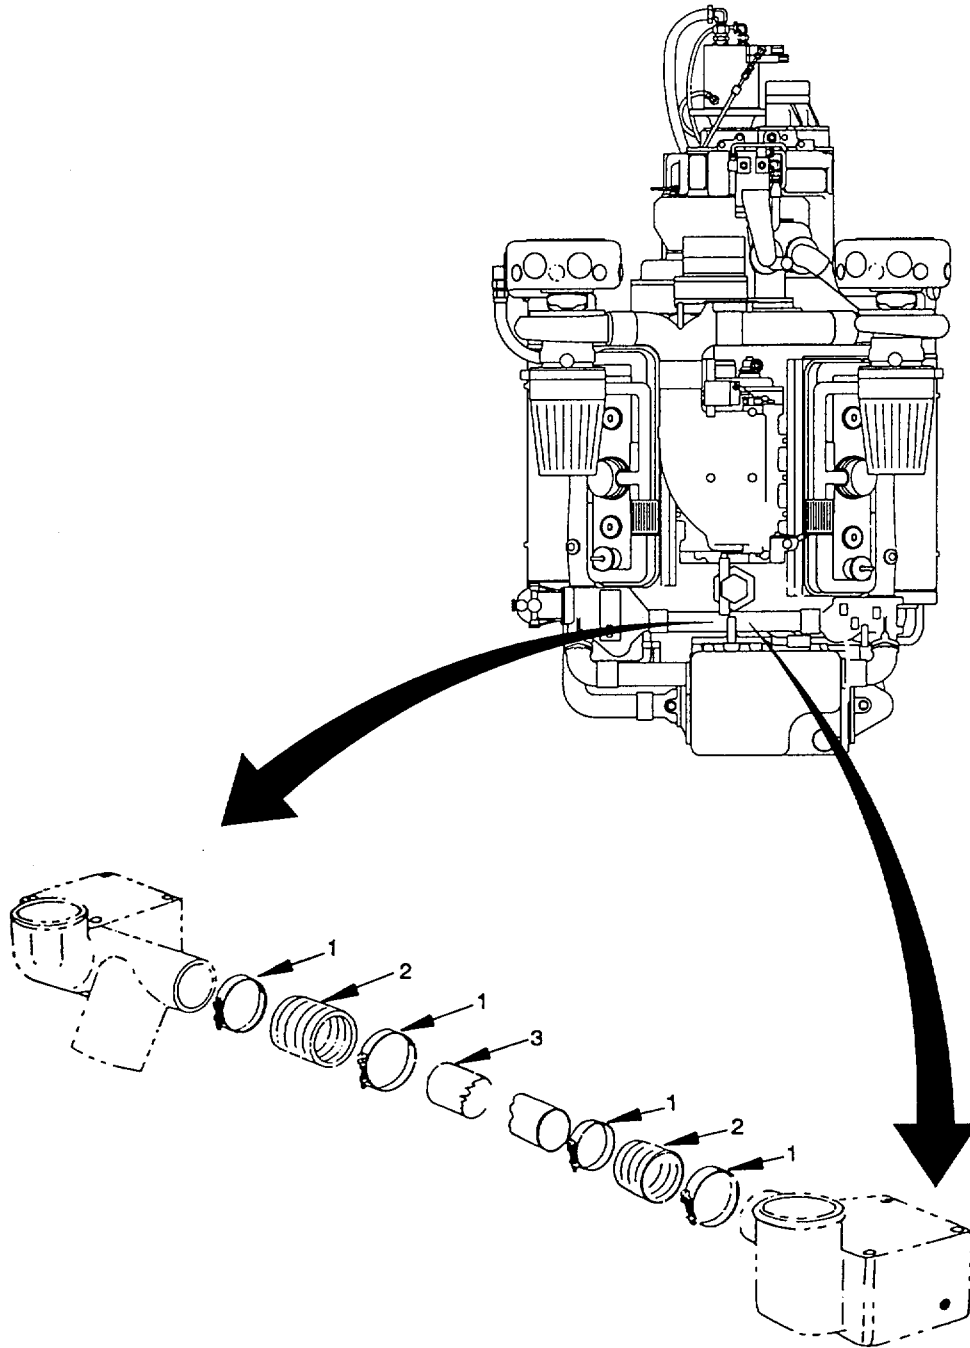

Figure 2-10. Water Bypass Tube, Diesel Engine, Remove/install
a. *Remove.* (figure 2-10)
- (1) Loosen hose clamps (1).
- (2) Remove hose (2) and tube (3) from thermostat housing.
b. *Install.* (figure 2-10)
- (1) Install hose clamps (1).
- (2) Install hose (2) and tube (3) on thermostat housing. Secure by tightening hose clamps (1).